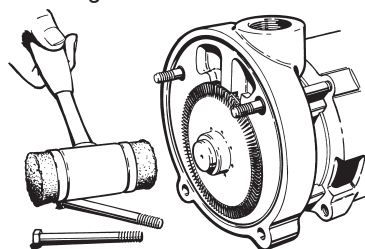

Figure 4-1
2. Remove the two (2) nuts (#20), and the two (2) 3/8" X 4" bolts (#19) from the cover (#2).
4. Remove the impeller (#11), refer to Figure 4-1. The impeller is a slip fit and, under normal conditions, can be removed by gently tapping on the end of the shaft sleeve with a mallet. Leave the impeller key (#23) in place. Striking the sleeve too hard could